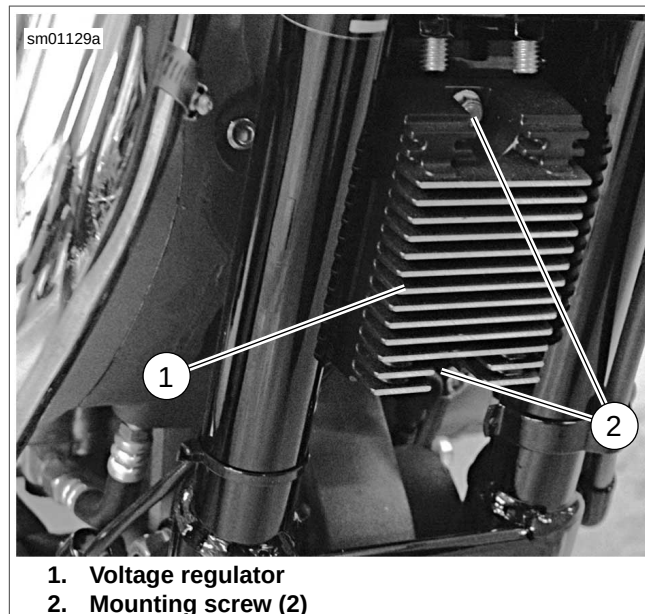

Figure 6-5. Voltage Regulator Location
4. See Figure 6-5. Remove screws (2) from locations at top and bottom of voltage regulator. Remove regulator from vehicle, carefully threading harnesses through opening in regulator mounting bracket.